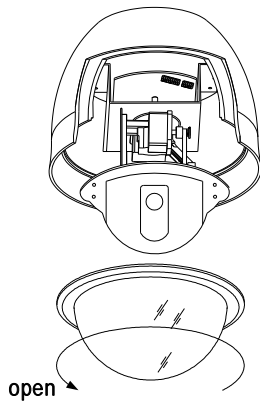
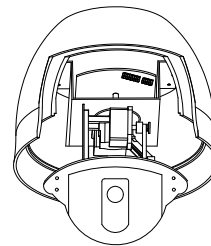

Figure 5
Figure 6
- a) Turn the dome cover anti-clockwise (Figure 5) and remove it (Figure 6).